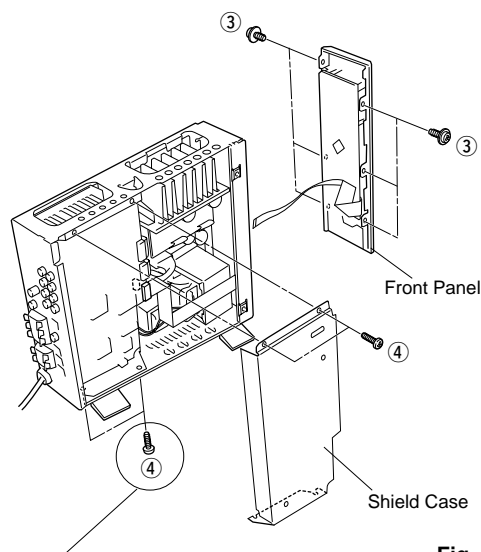

Fig. 2
Remove 6 screws (③) and then remove the Front Panel in Fig. 2.
Remove 4 screws (④) and then remove the Shield Case in Fig. 2.